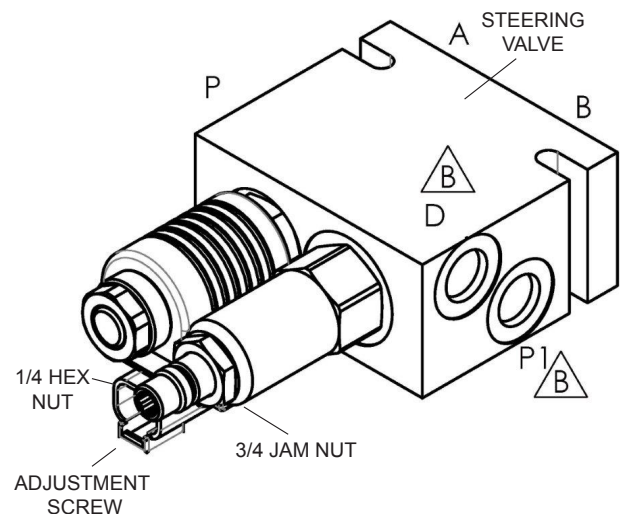

Figure 36. Steering Pressure Adjustment
5. Loosen 3/4" jam nut on steering valve (Figure 36).